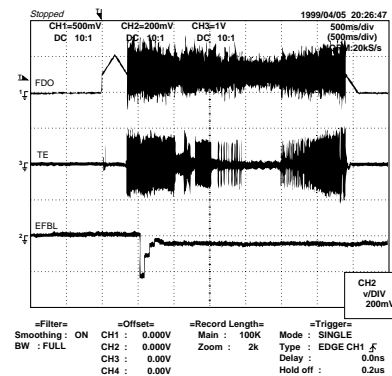

Figure 13-2
- Tracking balance adjustment (waveform drawing Fig. 13-2 EFBL)